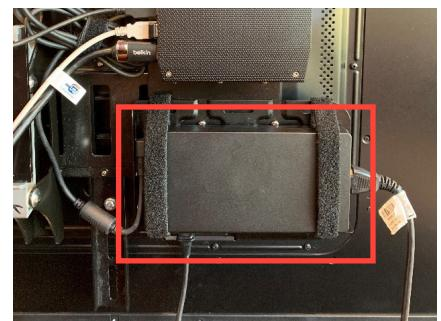

Figure 12 - Mounted computer and power supply
Step 14 Secure the computer power supply using the Velcro straps as shown in Figure 12.